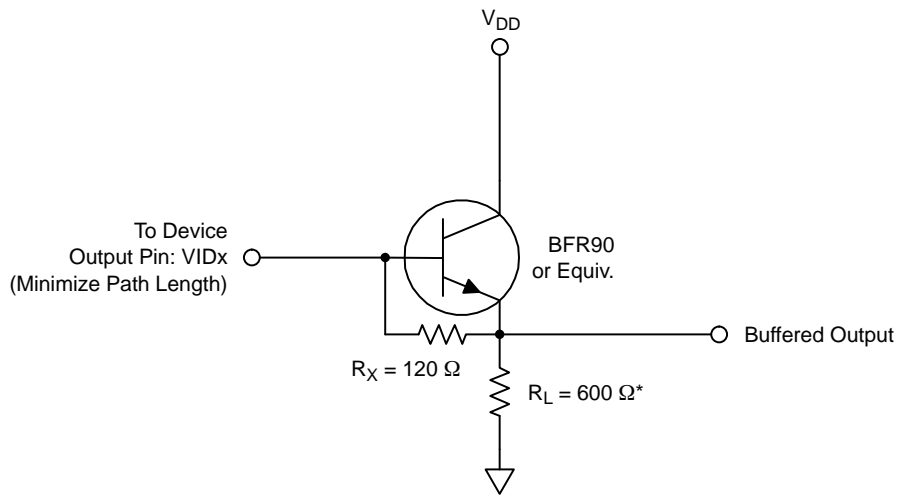

Figure 23. Typical Output Bias/Buffer Circuit
1. A current sink must be supplied for each output. Load capacitance should be minimized so as not to limit bandwidth. The values of  $R_X$  and  $R_L$  should be chosen to optimize for a given operating frequency, but.  $R_X$  should not be less than 75  $\Omega$ . The values shown in Figure 23 below represent one possible solution.